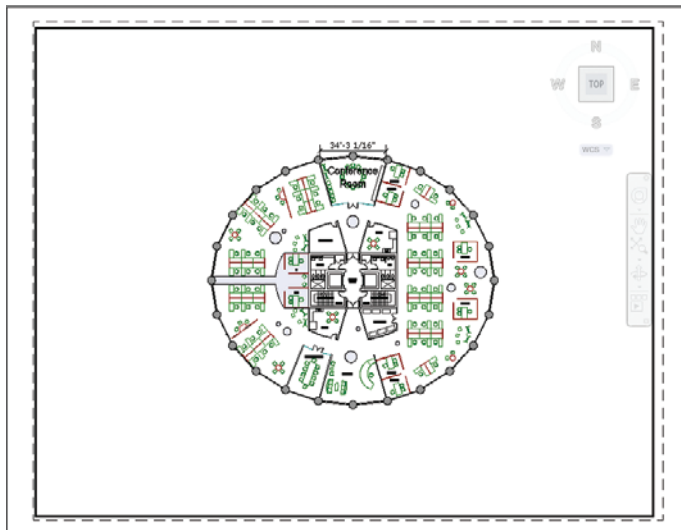

FIGURE 13.16 Finding the largest scale that will fit on the page
8. Zoom in and select the single dimension object, and move its dimension line upward for clarity. Note, however, that by zooming, you have changed the viewport scale. Again select $1/32" = 1'-0"$ (or 1:300 in metric) from the Viewport Scale menu button on the status bar, and pan the drawing to the center of the page (see Figure 13.16).